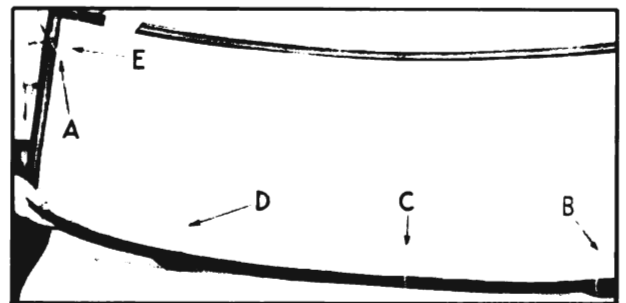

Figure 13-29—Assembly of Glass and Rubber Channel
3. With new glass on a bench, install the rubber channel around edges of glass. **DO NOT PRY EDGE OF GLASS WITH A METAL TOOL.** Insert a strong cord into the pinchweld groove of rubber channel. Referring to figure 13-29, start at upper corner indicated at "A," then follow across the top, down the side, and along the bottom to the wiper shaft section. At this point, make a loop in the cord and into this loop between the wiper shaft and washer tube holes insert a short section of cord indicated at "B." At bottom center of long cord make another loop indicated at "C." At opposite wiper section of channel indicated at "D" loop the cord and insert another short section. Follow up the remaining side and cross both ends of the cord at the upper corner indicated at "E." Tape ends of cord to inside surface of glass as illustrated.